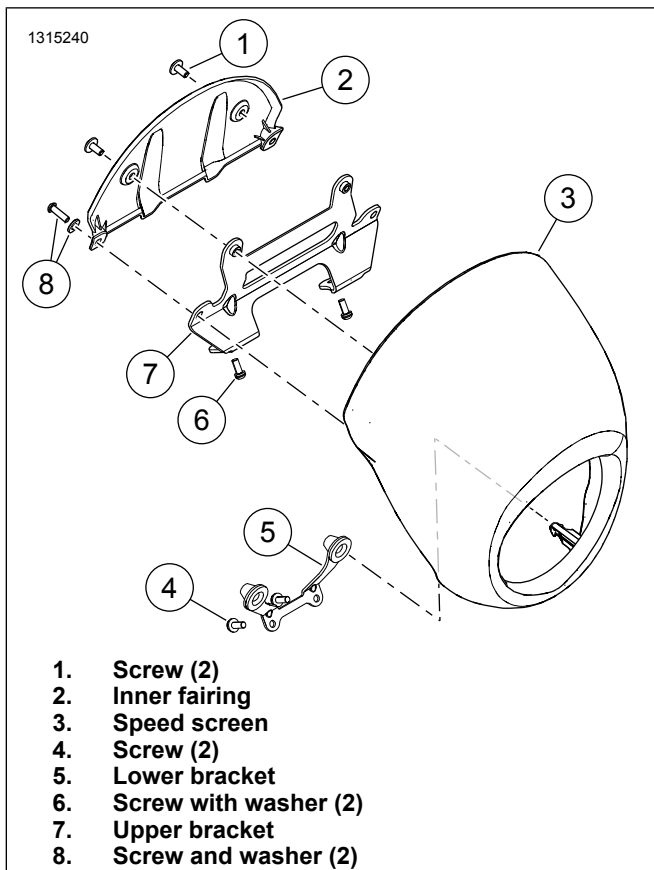

Figure 2. FXLRS Speed Screen
1. See Figure 2. Remove speed screen
- a. Remove screws and washers (8).
- b. Pull speed screen (3) away from upper bracket (7).
- c. Pull speed screen away from lower bracket (5) to remove posts from grommets.
- a. Remove screws (1).
- b. Remove inner fairing (2).
- a. Remove screws (6).
- b. Remove upper bracket (7).